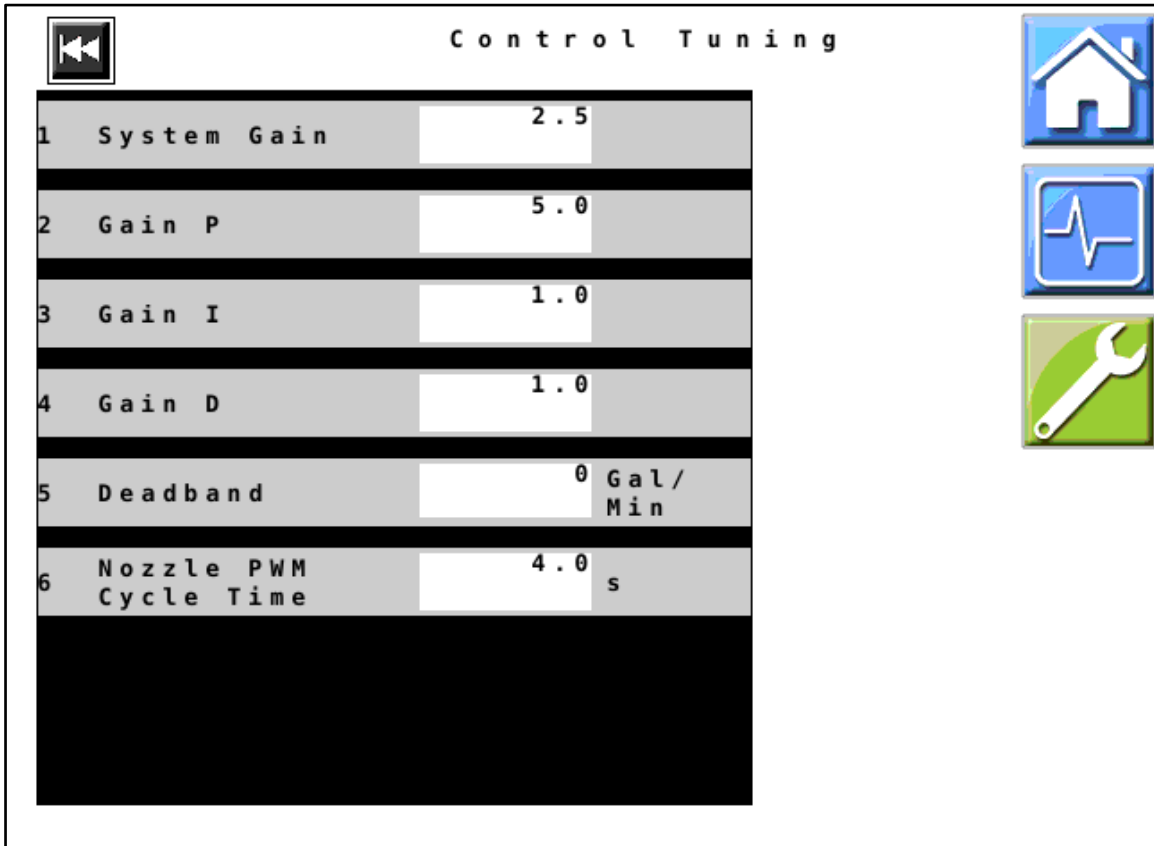

Figure 18 — Control Tuning
33. *Figure 18*: Verify that all values displayed on your unit match those shown here. Change values if necessary.